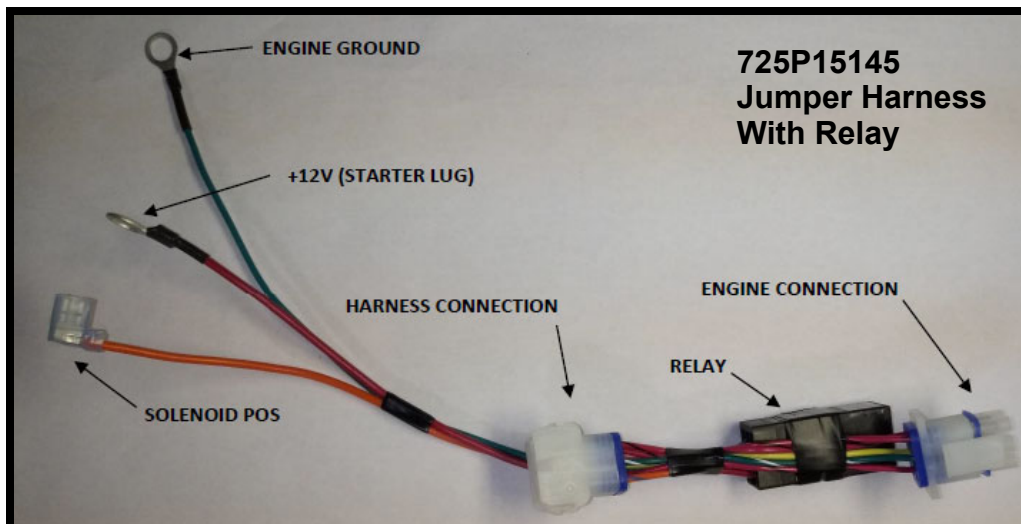

FIGURE 4
8. Locate the **725P15145** Jumper Harness with Relay shown in Figure 4.